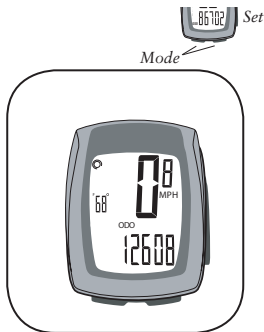

Figure 13- ODO screen
1. Cycle **Mode** to ODO (Figure 13).